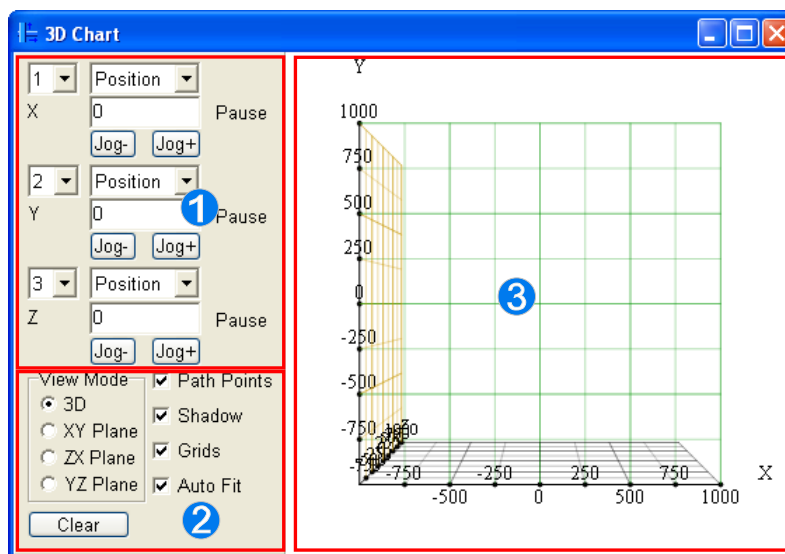

Figure 13-3 Three-dimensional chart
- (3) The **3D Chart** window shown in figure 13-3 is described below.